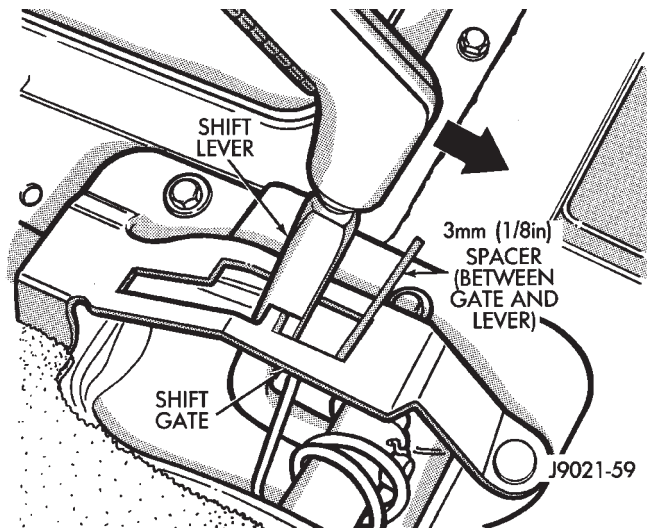

Fig. 4 Installing Shift Lever Spacer
- (1) Remove shift lever bezel.
- (2) Move shift lever into 4L position.
- (3) Insert 3 mm (1/8 in.) spacer between shift lever and forward edge of shift lever gate (Fig. 4). Secure lever and spacer in place with tape or wire.